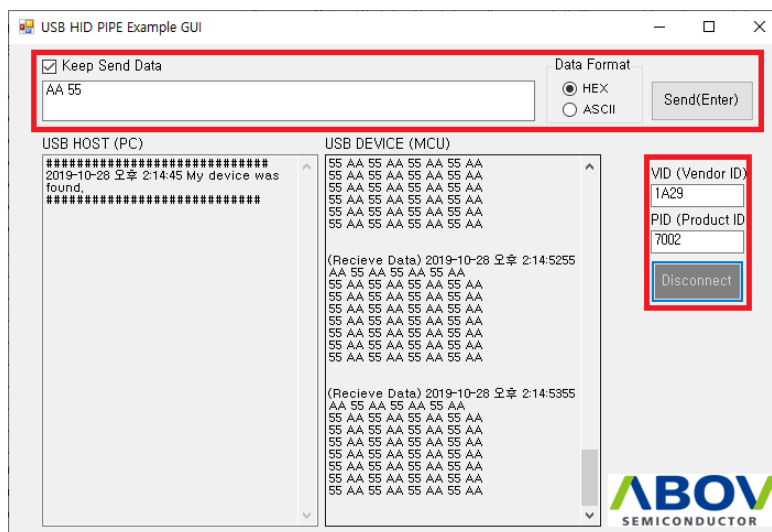

Figure 160. USB HID PIPE Example GUI
- F. As shown in the Figure 160 below. (For example, receive a string “0x55 0xAA...”)